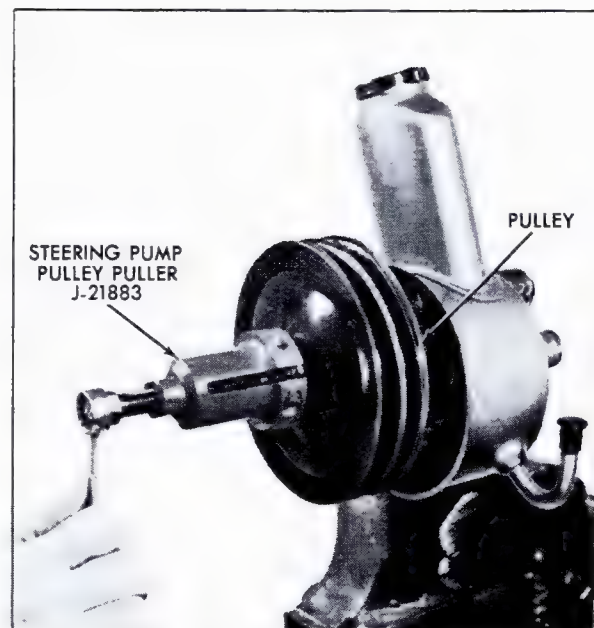

Fig. 9-12 Removing Pump Pulley
2. Clamp mounting bracket in vise with pump attached. Remove pulley from shaft using Pump Pulley Puller, J-21883, Fig. 9-12.
2. Clamp mounting bracket in vise with pump attached and remove pulley from shaft, using Pulley Remover, J-21883, Fig. 9-12.